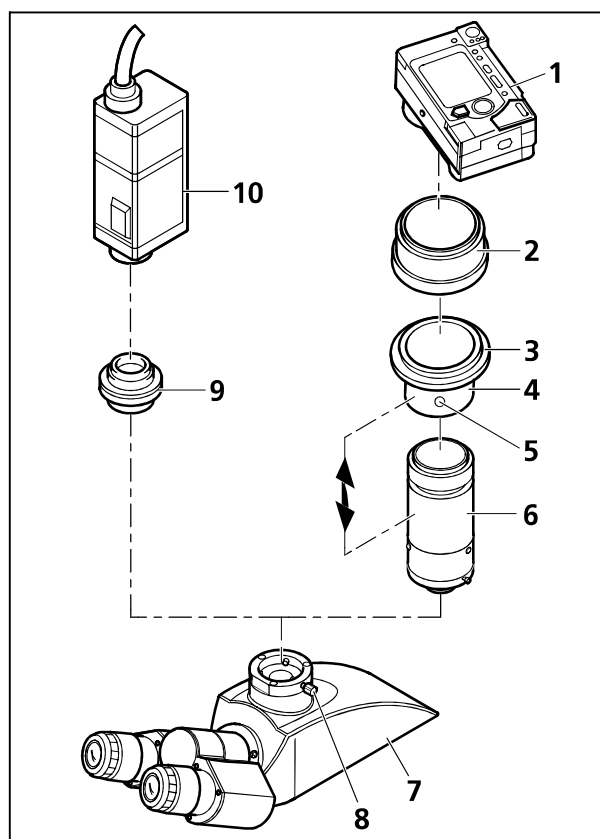

Fig. 17 Installing a camera
- First, install the photo tube (Fig. 17/7), if necessary (refer to Section 3.4.1).
- Loosen clamp screw (Fig. 17/8) and remove the dust cap from the photo tube.
- Sliding mount (Fig. 17/4), thread adapter ring M37/52 (Fig. 17/3) and lens mount (Fig. 17/6) are supplied premounted as **Digital Camera Adapter P95 M37/52x0.75**. The opposite drawing shows this unit dismantled. Furthermore, you may unscrew the M37/52 thread adapter (Fig. 17/3) (not shown) from the sliding mount (Fig. 17/4) so that you can also mount cameras with M37 thread.
- Mount the adapter ring (Fig. 17/2) (supplied with the camera) to the camera (Fig. 17/1) (see the operating instructions of the camera).
- Screw the unit consisting of sliding mount (Fig. 17/4), thread adapter ring M37/52 (Fig. 17/3) and lens mount (Fig. 17/6) into the adapter ring (Fig. 17/2).
- Insert the camera with adapter into the photo tube as far as it will go. Align it and fasten it with clamp screw (Fig. 17/8).
- Depending on the microscope equipment or the camera used, it may be necessary to optimize the distance between camera lens and lens mount (Fig. 17/6) (see double-headed arrow). This will be necessary in particular, if it is impossible to obtain an unvignetted image in any of the zoom positions of the camera lens. To this end, adjust the camera as follows:
- Loosen grub screw (Fig. 17/5).
- Zoom the camera lens through from wide angle (W) to tele position (T).
- Retighten the grub screw (Fig. 17/5).
Cameras with C-mount thread are to be connected to the phototube of the microscope by means of the camera adapter P95-C 2/3" 0.65x or P95-C 1/2" 0.5x (Fig. 17/9).
- Put the camera (Fig. 17/10) together with the corresponding camera adapter (Fig. 17/9) into the phototube as far as it will go, align it and fasten it by means of the clamp screw (Fig. 17/8).